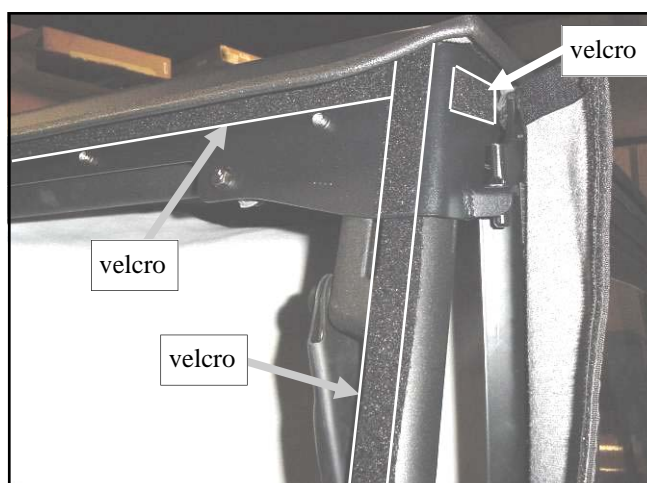
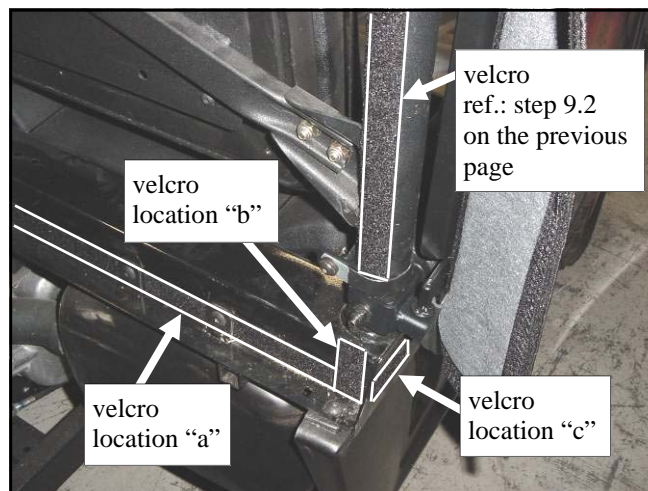

Fig. 9.1 (view from rear of passenger's side)
Fig. 9.4 (view from rear of passenger's side)
9.1 Note: self-adhesive velcro should be applied to a clean, dry surface at room temperature for best adhesion. Per fig. 9.1, install the 1” wide loop velcro along the top of the rear panel support just above the factory installed snaps. All the way across from the very left and right corners of the sheet metal as shown. Note: the white lines in the photo represent the edges of the velcro for clarity.
9.2 Per fig. 9.1, install 1” wide loop velcro down the back edge of the rear panel support and onto the back side of the R.O.P.S. tubing all the way down to the bottom as shown (also see fig. 9.4 on the next page).
9.3 Per fig. 9.1, install a short 3-1/2” long piece on the very side as shown in the top right hand corner of the photo. This will be for the top of the vinyl on the door.
9.4 Reminder: self-adhesive velcro should be applied to a clean, dry surface at room temperature for best adhesion. Note: the white lines in the photo represent the edges of the velcro for clarity. Per fig. 9.4, install the 1" wide loop velcro along the bottom vertical surface of the vehicle as shown (location "a"). All the way across from the left to the right side of the vehicle.
9.5 Per fig. 9.4, install a short 2-1/2" long piece of velcro below the hex head bolt where shown as location "b".
9.6 Per figures 9.4 and 9.6, install a short 3-1/2" long piece of velcro on the very side as shown in the lower right hand corner of the photo (location "c"). This will be for the bottom of the vinyl on the door.